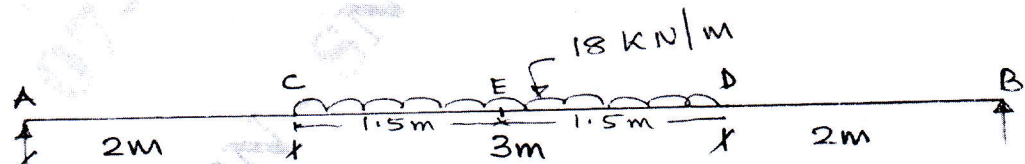

Fig. Q10
- 10 Calculate the slope at E and deflection at C and D for the beam shown in Fig. Q10. $EI = 15000$ kNm². (20 Marks)